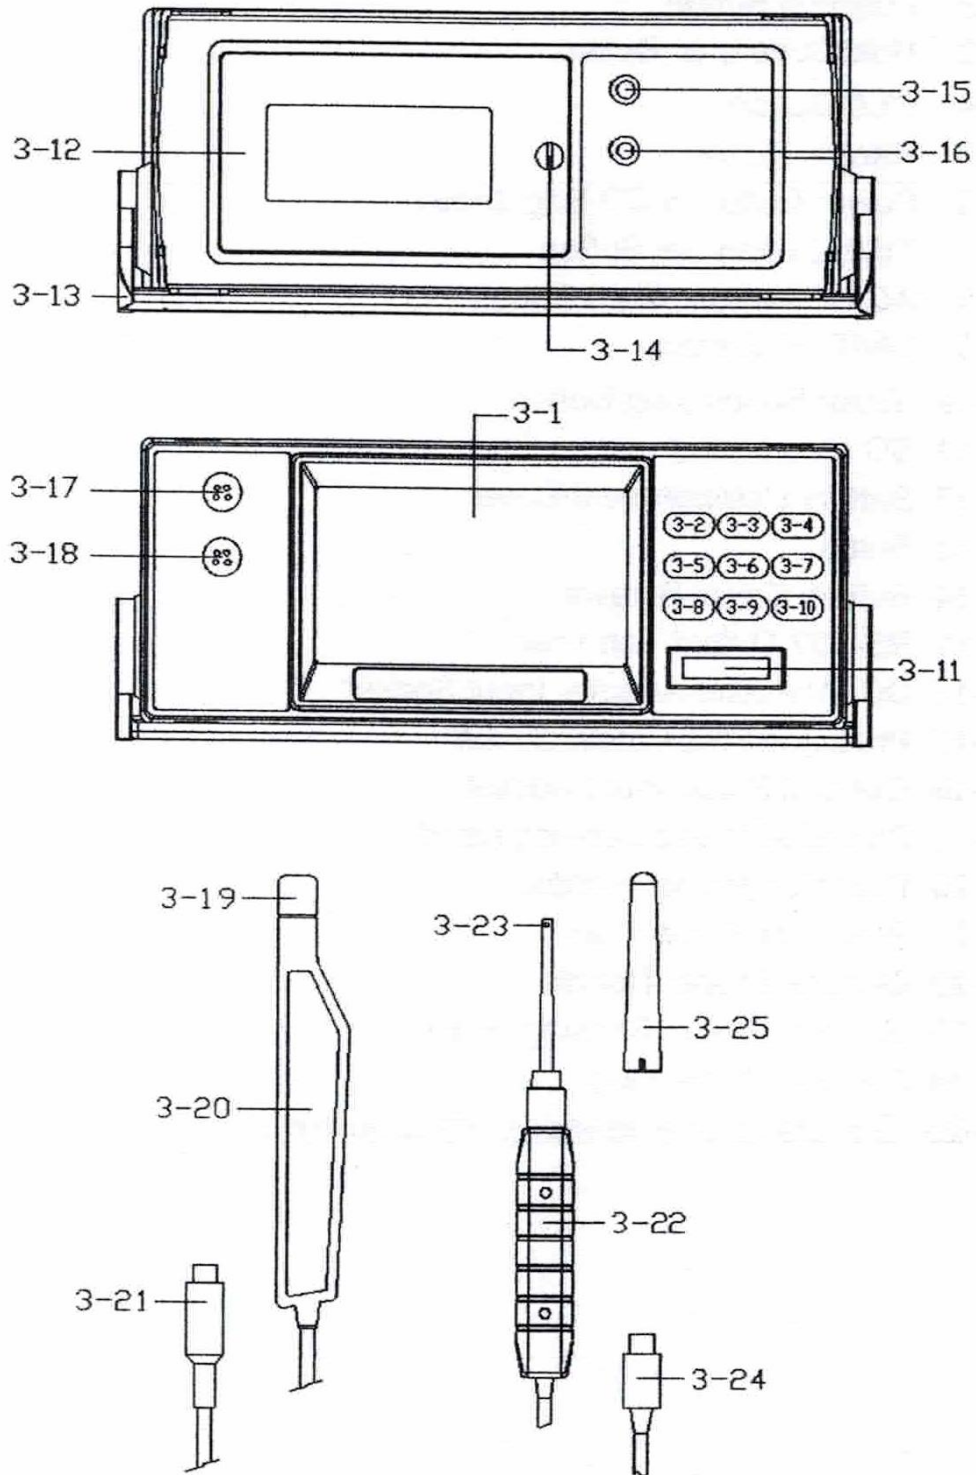

Fig.1
- 1) Power ON the meter by pressing and holding the " Power Button " (3-6, Fig. 1) for at least 2 seconds .
- 2) General magnetic field measurement Function by pressing the " Function Button " (3-2, Fig. 1) to select General measure function .
- 3) General Probe Plug (3-24, Fig. 1) into the meter General Probe Input Socket (3-18, Fig. 1)
- 4) "DC" or "AC" measurement Function select by pressing the " AC/CD Button " (3-8, Fig. 1) to select measure function DC or AC function .
- 5) magnetic field measurement range select by pressing the " Range Button " (3-5, Fig. 1) to select ' Range 1 or 'Range 2 .
- 6) unit selection by press the " Unit Button " (3-9, Fig. 1) to select the unit mT or G .
2. For precision DC ,AC magnetic field measurement it should deduct those "not zero " value (existing environment earth's magnetic field value) at first . Before the measurement, fix the probe at the exact position, by pressing and holding the" ZERO (3-8 , Fig. 1) " continuously at least two seconds until the Display show " ZERO " indicator then release the finger from the button.
- *press the " ZERO Button " (3-8, Fig 1) continuously at least 2 seconds the " ZERO " indicator will be disappeared and the Display will return to the value ." no zero "value (show the environment magnetic field.
- 1) Power ON the meter by pressing and holding the " Power Button " (3-6, Fig. 1)for at least 2 seconds .
- 2) Precision magnetic field measurement Function by pressing the " Function Button " (3-2, Fig. 1) to select Precision measure function .
- 3) Precision Probe Plug (3-21, Fig. 1) into the meter Precision Probe Input Socket (3-17, Fig. 1)
- 6) unit selection by press the " Unit Button " (3-9, Fig. 1) to select the unit micro Tesla or milli Gauss .
2. Power ON the meter by pressing the " Power Button "(3-6 Fig 1) >2 S.
3. Select the unit (mG or uT) by press the " UNIT Button "(3-9 Fig 1)once.
2. For Precision DC, AC magnetic field measurement it should deduct those "not zero " value (existing environment earth's magnetic field value) at first .Before the measurement, fix the probe at the exact position, by pressing and holding the"ZERO (3-8 , Fig. 1) " continuously at least two seconds until the Display show " ZERO " indicator then release the finger from the button.
*press the " ZERO Button " (3-8, Fig 1) continuously at least 2 seconds the " ZERO " indicator will be disappeared and the Display will return to the value)." no zero "value (show the environment magnetic field.
During the measurement, press the " Hold Button " (3-3, Fig. 1) once will hold the measured value & the LCD will display a " HOLD " symbol.
- 1) The data record function records the maximum and minimum readings. Press the " REC Button " (3-4, Fig. 1) once to start the Data Record function and there will be a " RECORD " symbol on the display.
- a) Press the " REC Button " (3-4, Fig. 1) once, the "RECORD MAXIMUM " symbol along with the maximum value will appear on the display.
- b) Press the "REC Button "(3-4, Fig. 1) again, the " RECORD MINIMUM " symbol along with the minimum value will appear on the display.
Depending on the brightness of the environment, can use the "Backlight Button " (3-6, Fig. 1) select from 4 rd-order LCD Backlight brightness.